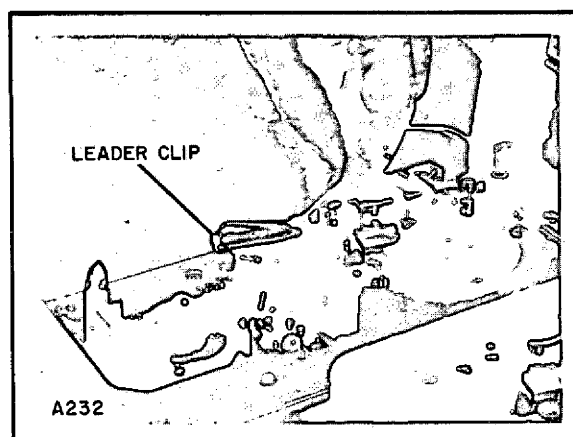

Fig. 4-5. Removing the Leader Clip from the Clip Channel
- e. Move locking lever to the lock position. When the locking lever is in the lock position, the clip channel is open and the leader clip may be removed. (See figure 4-5 for this step and the following step.)